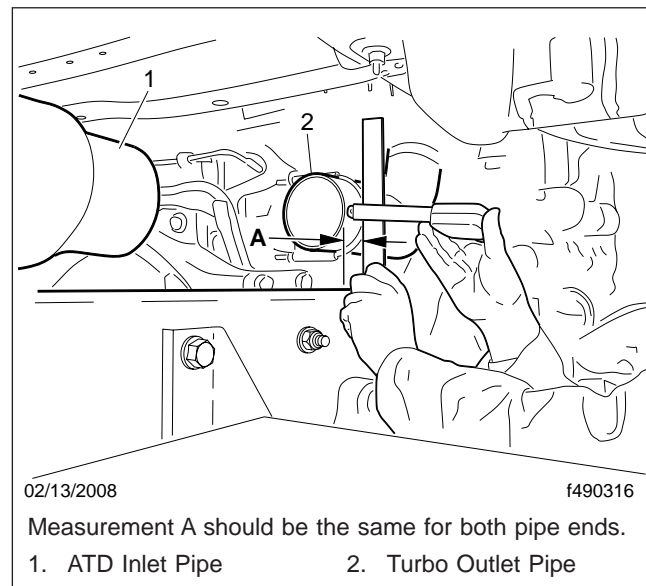

Fig. 3, Horizontal Measurement
- 3.4 Measure the horizontal distance between the pipe and the frame rail. See Fig. 3. This measurement must be the same for both pipe ends.